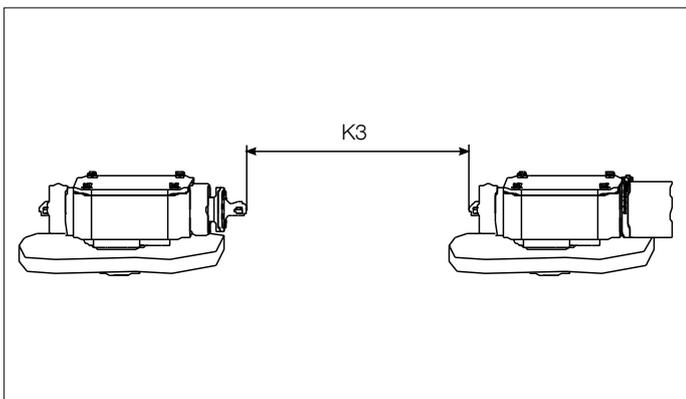

Fig. 39.
8. Push the two protective tubes onto the bevel gears and clamp them with hose clips, SA10; see Fig. 39.
1. Determine the distance K3 between the spherical shaft ends; see Fig. 39.